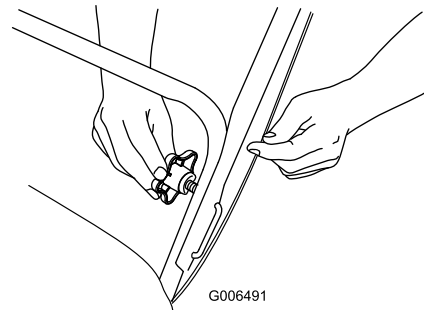

Figure 5
- Insert the end of the “U”-shaped handle lock into the open hole in the handle and tighten the handle knobs until they are snug (Figure 5).